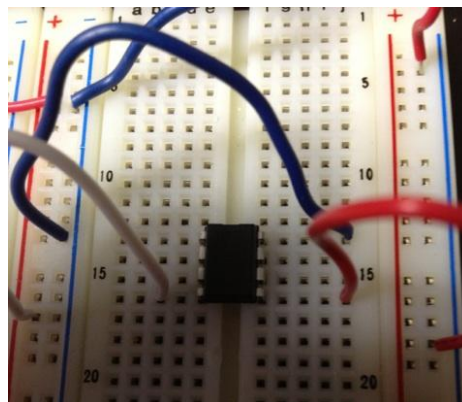

Figure 7d: Successfully powered op amp
- Your powered op amp should now look like Figure 7d.